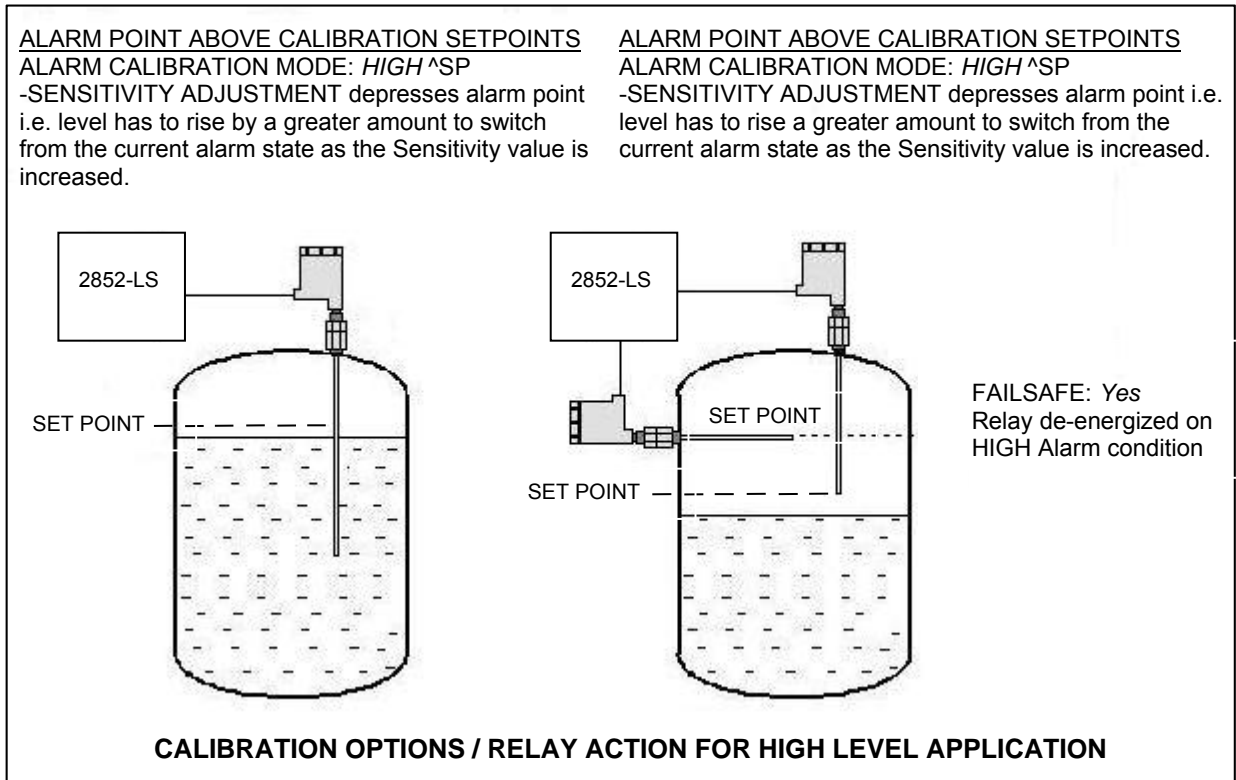

Figure 4 – No Differential Application – High Level
3. No mA output OR incorrect mA output.	IMPORTANT: THE UNIT SOURCES mA OUT FROM THE mA OUTPUT TERMINAL. THIS TERMINAL SHOULD NOT BE CONNECTED TO +24V. IT IS NOT A 2 WIRE mA TRANSMITTER. See Figure 4 for Electrical hookup details. <ul style="list-style-type: none"> • Disconnect external wires from mA output and measure with mA Meter. • Check the mA output Action (direct or inverse) and mA output Span are set as desired. See section 6.0 Flow chart / Change menu. • If the mA output still does not match the level, then call Arjay Technical Support.